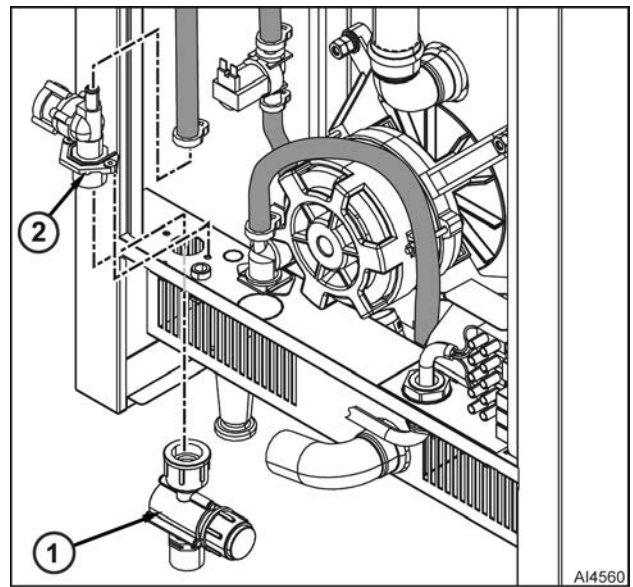

Fig. 51
3. Disconnect filtered water supply from oven inlet filter assembly (1, Fig. 51).
4. Unthread inlet filter assembly (1, Fig. 51) from filtered water flow restrictor (2, Fig. 51).